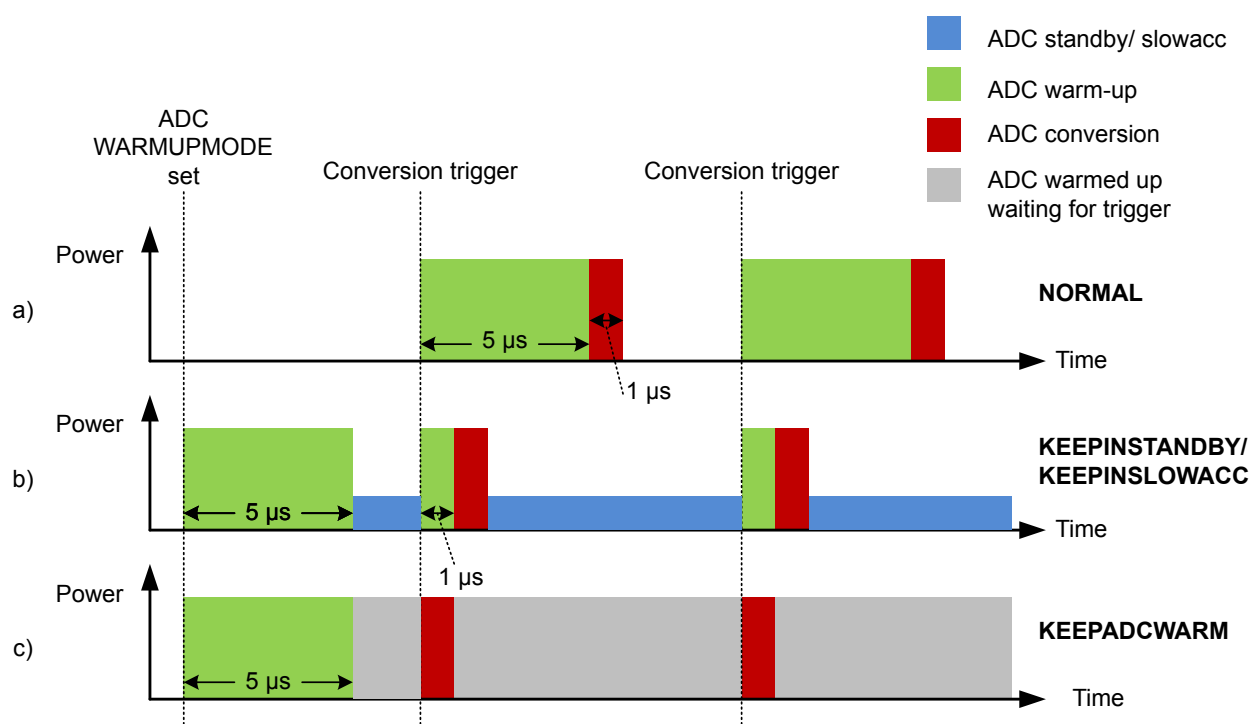

Figure 25.4. ADC Analog Power Consumption With Different WARMUPMODE Settings
Normally, the ADC will be warmed up only when samples are requested and is shut off when there are no more samples waiting. However, if lower latency is needed, configuring the WARMUPMODE field in ADCn_CTRL allows the ADC and/or reference to stay warm between samples, reducing the warm-up time or eliminating it altogether. Figure 25.4 ADC Analog Power Consumption With Different WARMUPMODE Settings on page 862 shows the effects on analog power consumption in scenarios using different WARMUPMODE settings.
- **NORMAL:** This is the lowest power option for general-purpose use and low sampling rates (below 35 ksps). The ADC and references are shut off when there are no samples waiting. The ADC does not consume any power when it is shut down. A 5 μ s warmup time will be initiated prior to every conversion. Figure a in Figure 25.4 ADC Analog Power Consumption With Different WARMUPMODE Settings on page 862 shows this mode.
- **KEEPINSTANDBY:** This mode is suitable for infrequent sampling of lower impedance inputs, and is the lowest power option for sampling rates between about 35 and 125 ksps. It may also be useful for lower sampling rates where latency is important. The reference selected for scan mode is kept warm, but the ADC is powered down. The ADC will initiate a 1 μ s warmup period before a conversion begins. Because the reference is kept warm, the ADC will consume a small amount of standby current when it is not converting. Figure b in Figure 25.4 ADC Analog Power Consumption With Different WARMUPMODE Settings on page 862 shows this mode.
- **KEEPADCWARM:** This mode provides the lowest latency and allows for maximum sampling rates. The ADC and reference circuitry remain powered on even when conversions are not in progress. Figure c in Figure 25.4 ADC Analog Power Consumption With Different WARMUPMODE Settings on page 862 shows this mode. This mode consumes the most power, but as soon as a trigger event occurs, the acquisition and conversion begin with no warm-up time. Note that if KEEPADCWARM mode is set and HFXO is selected as the ADC clock source, the HFXO will remain on in EM2.